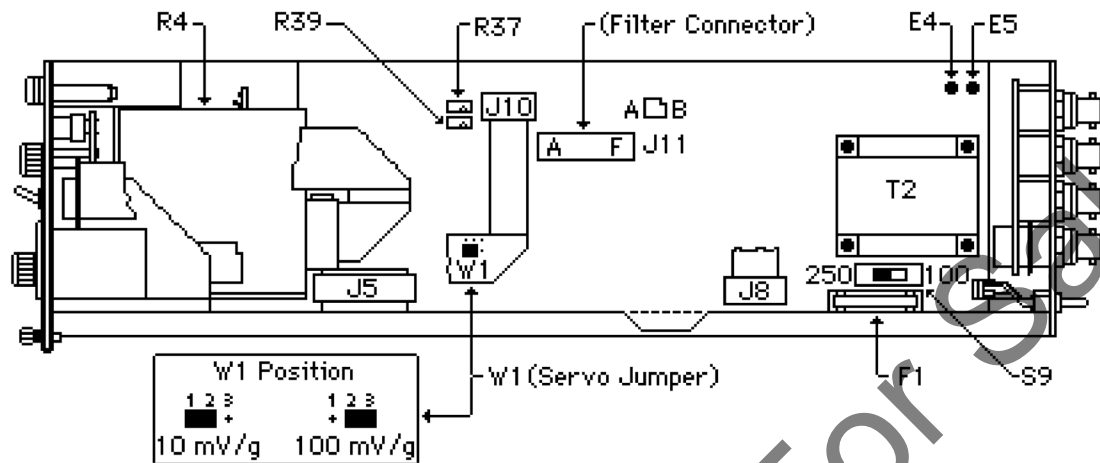

FIGURE 5-3: INTERNAL CONTROLS
- B. Change the frequency to 1000 Hz at the same input level and measure the AC OUTPUT for a maximum common mode voltage of 4.24 mVrms. If the common mode is high, set full scale switch to 10, and the SENSITIVITY switch to 1.00, and adjust R37 and R39 for a minimum peak to peak signal on the oscilloscope, then take the reading at 1000 Hz (see figure 5-3) and recheck the reading at 100 Hz. The adjustments of R37 and R39 are interactive and may require more than one readjustment.